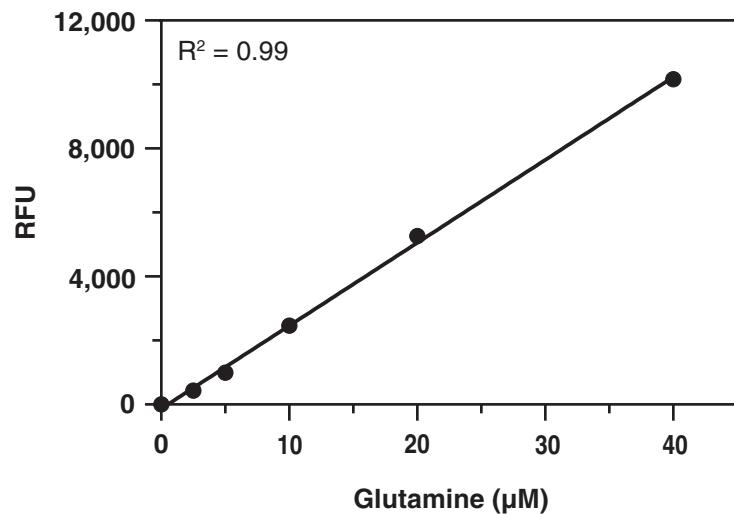

Figure 5. Glutamine standard curve for the fluorometric format
3. Plot the corrected signal values of each standard as a function of the concentration of glutamine. See Figures 5 and 6, on pages 20 and 21, for typical standard curves.